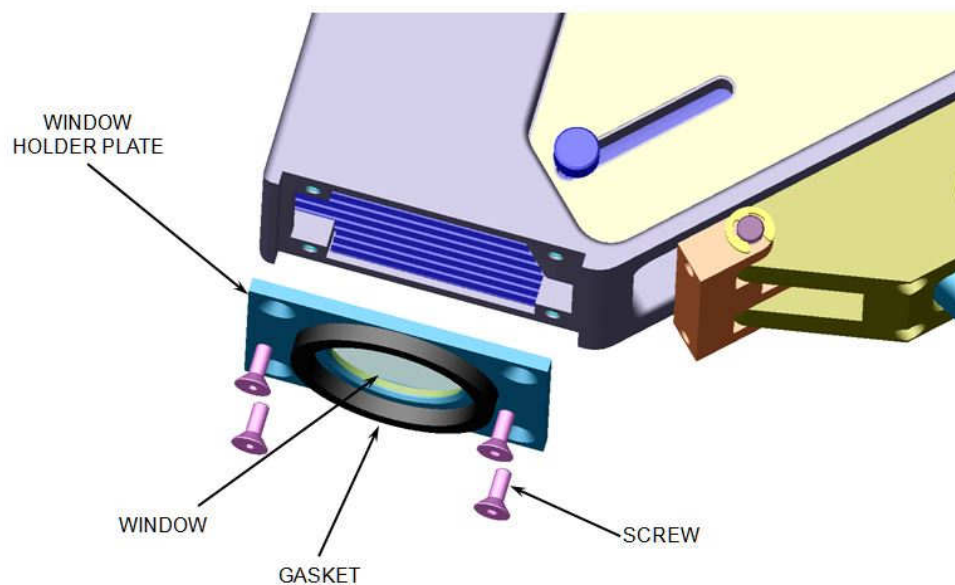

Figure 21 Window Assembly Removal
2. Using your finger tips and cleaning tool, remove the worn foam gasket from it's groove around the window. Be sure to clean out all gasket pieces and glue residue to leave a clean surface in the round groove (see Figure 21 above).